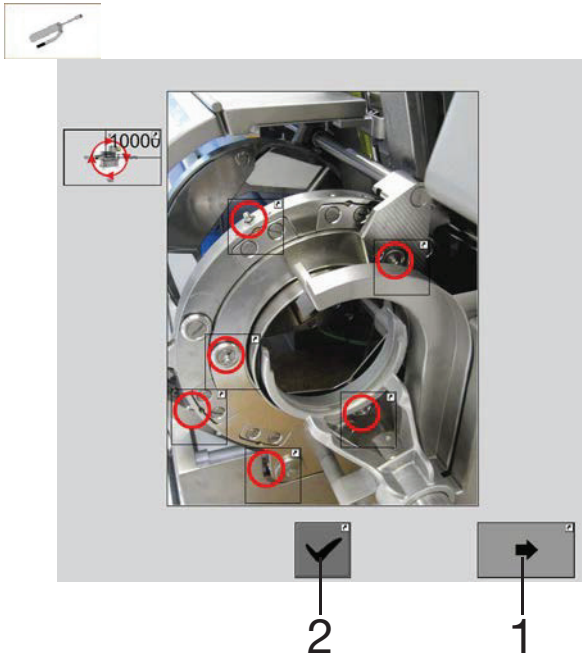

Fig. 4-22 Manual lubrication points, part 1
- When the image sequence for manual lubrication appears, always press the Next button (1, Fig. 4-22) to make sure you have lubricated all the manual lubrication points before you acknowledge the message!